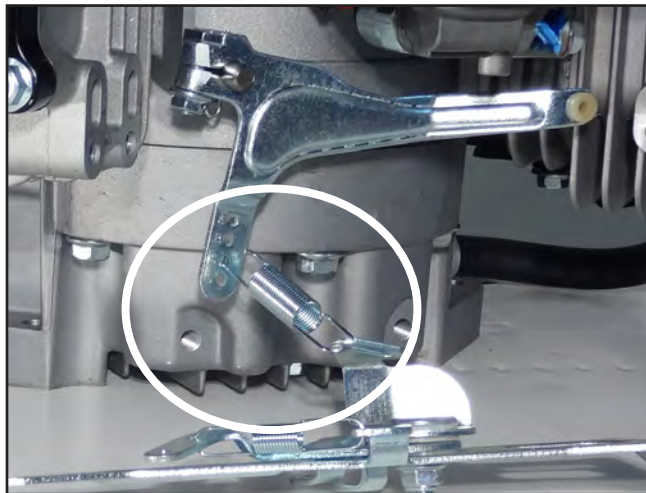

Figure 36
2. Hook the governor spring to hole “C” of governor arm and to throttle pivot on the control plate (Figure 36).